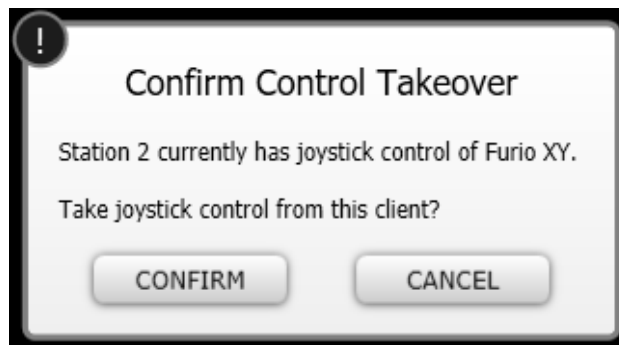

Figure 106 - Confirm Control Takeover dialog box
3. In the **Confirm Control Takeover** dialog box, tap **Operate** (Figure 106).